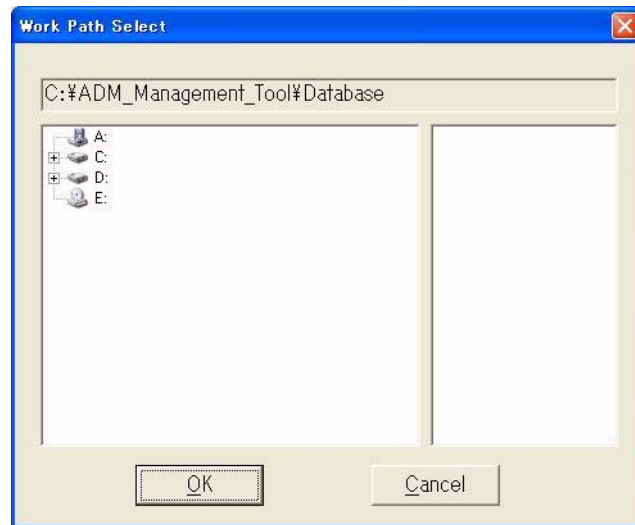

Fig. 4-8-2 Work Path Select Dialog Box
- 1) Click the **Browse** button on the right of the **DataBase Folder Select** field to open the **Work Path Select** dialog box shown in *Fig. 4-8-2*.